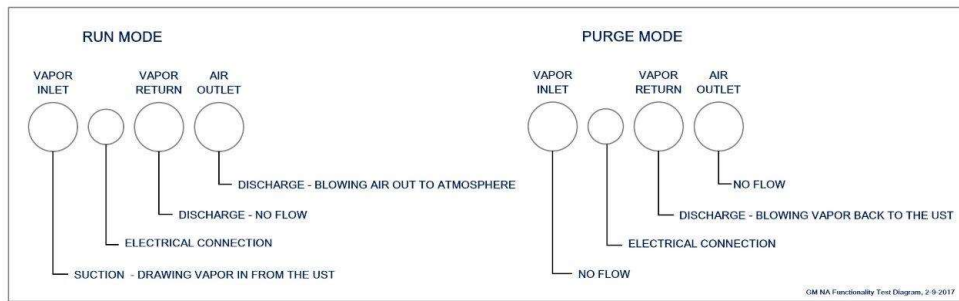

Figure 7-7: GREEN MACHINE Operation Diagram
7. During the 60-second Run Cycle: **See Figure 7-7.**
9. During the 60-second Purge Cycle: **See Figure 7-7.**